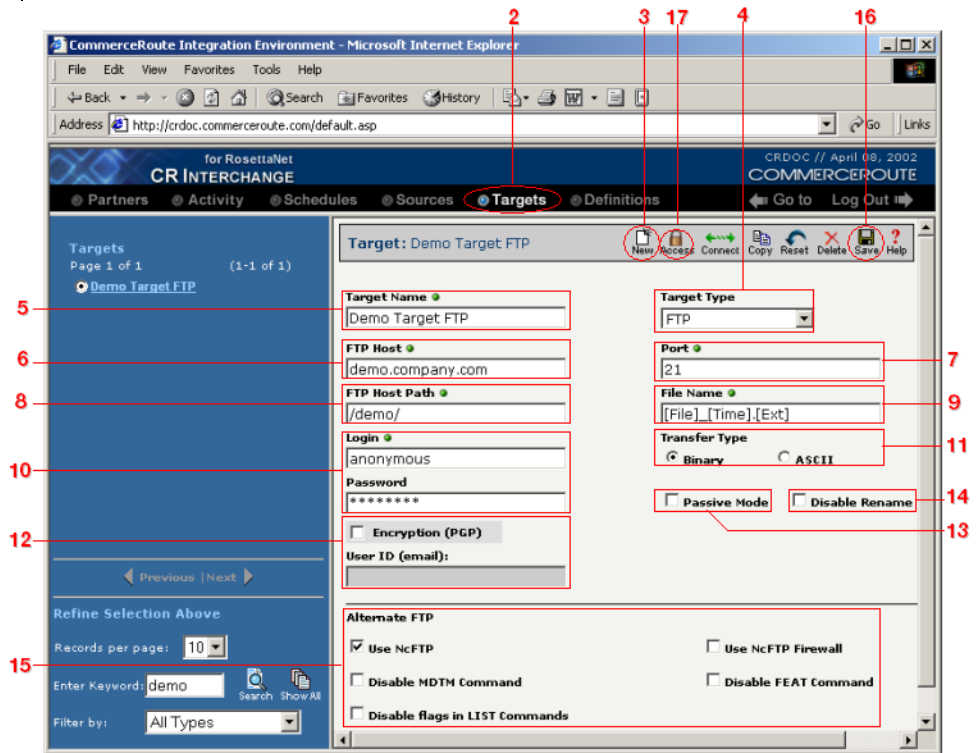

Figure 8-4. Follow the steps listed above to successfully define a new FTP target.
Follow these steps to create a new FTP target definition. Each step is marked in Figure 8-4 below.
- ❻ Enter a valid FTP server location in the **FTP Host** field, e.g., `ftp.company.com`.
- ❼ Provide the proper Port ID in the **Port** field.
- ❽ Enter a valid root location in the **FTP Host Path** field. The path should start and end with a “/”, like in `/target/`.
- ❾ Enter the file name(s) (such as `BillofSale.txt`) that will contain your target information in the **File Name** field.
- ❿ Enter an appropriate login and password for the FTP server in their respective fields.
- ⓰ Click the **Save** button in the toolbar. Compare your definition to that shown in Figure 8-4 below.